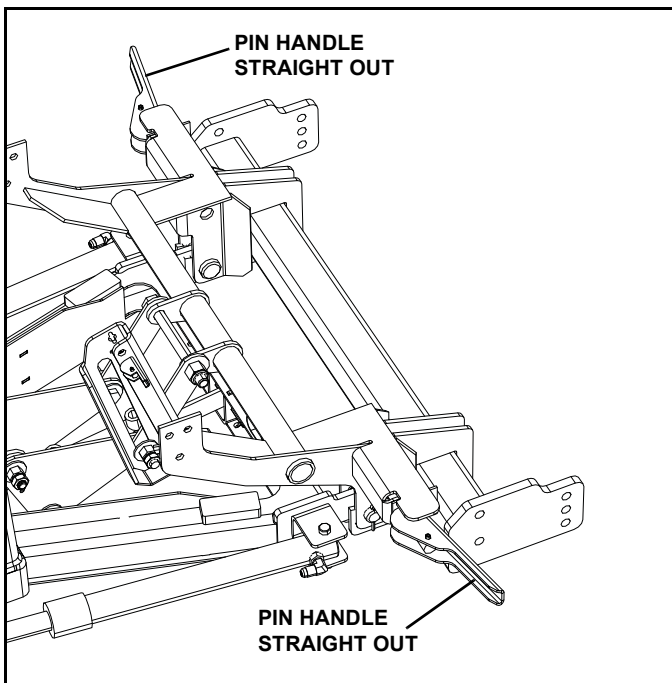

Figure 1-15
4. Push pin handles toward truck to unlock main pins. (See Figure 1-15)